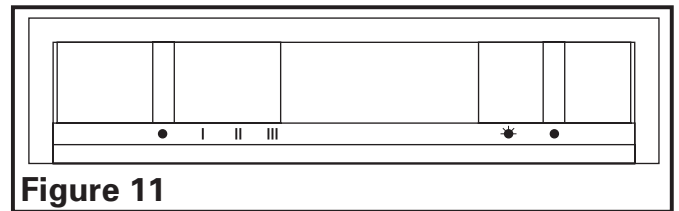

Figure 11
Your Range Hood is equipped with two sliding switches with one controlling the lighting and the other controlling the exhaust fan. The light control has two positions, ON (☀) and OFF (●). The fan is a four position control, HIGH (III), MEDIUM (II), LOW (I), and OFF (●) (**Figure 11**).